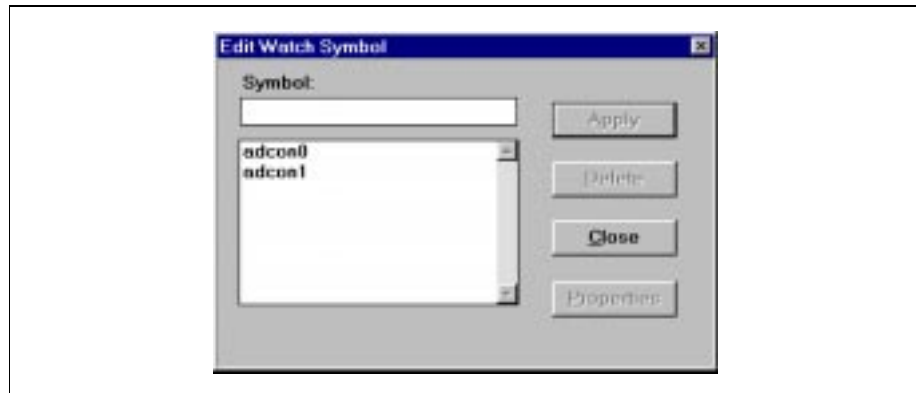

Figure 5.22: Edit Watch Symbol Dialog
- **Edit Watch** – Used to specify the display format of symbols. Causes the Edit Watch dialog to appear (Figure 5.22).